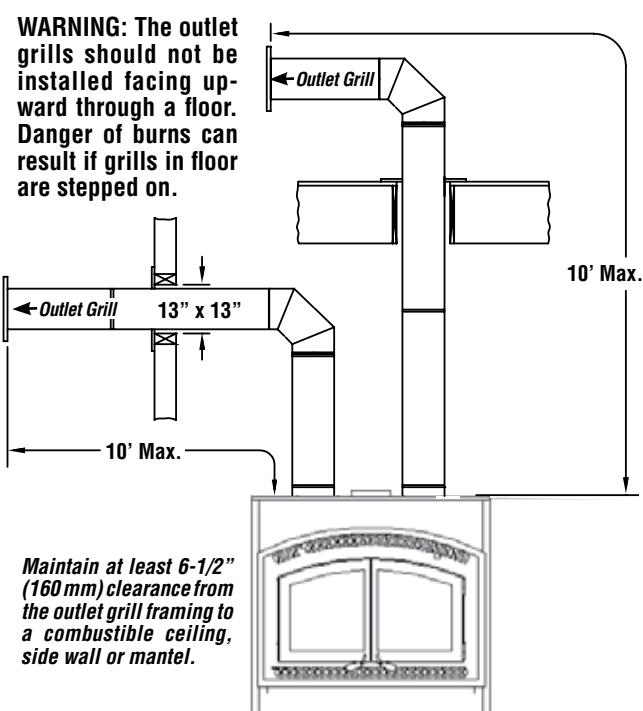

Figure 17
**Maximum length** See Figure 17
When installing the double outlet system, the hot air outlets can be installed in the same room as the fireplace, or one or both of the outlets can be installed in adjacent or upper rooms. Installing the ducts at different elevations will tend to exhaust more heat out of the higher outlet (Figure 17).